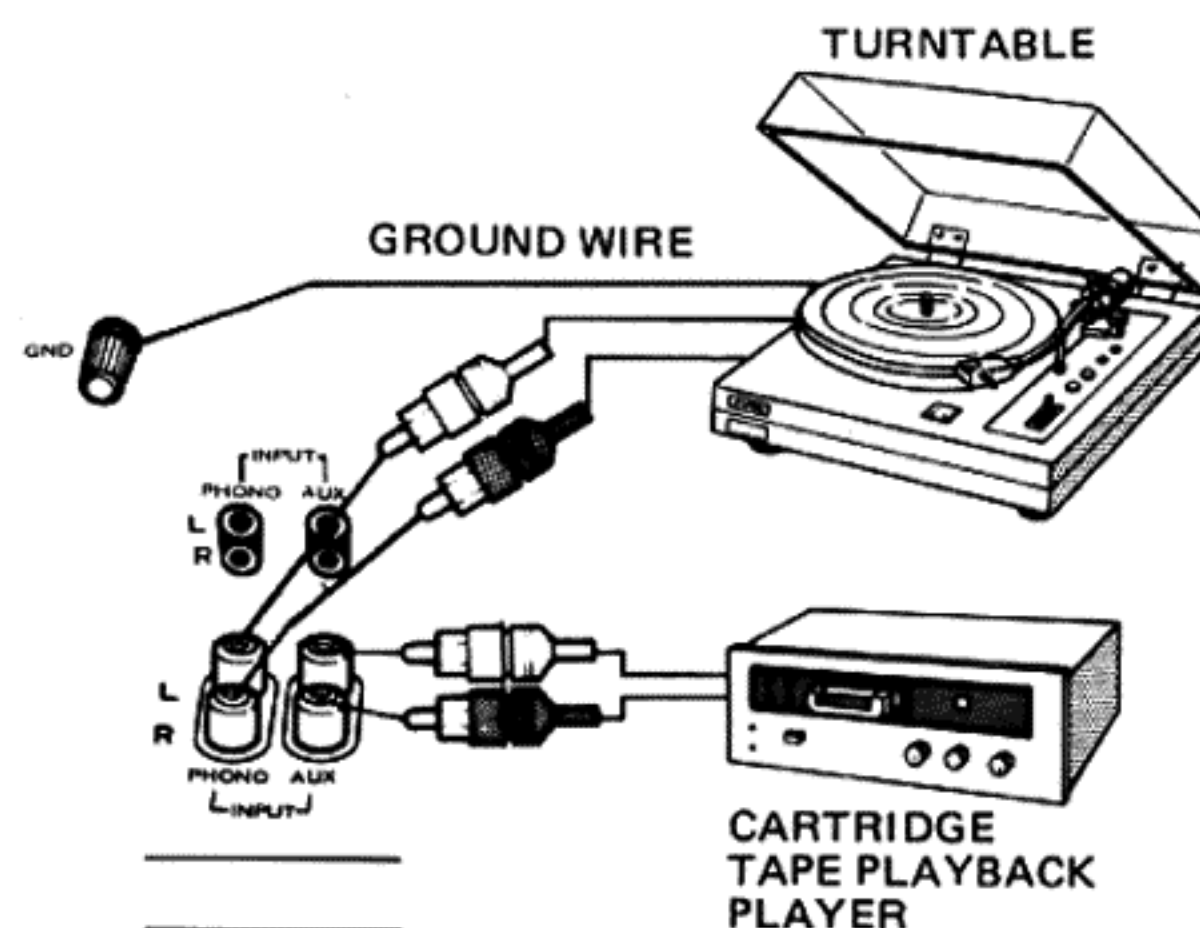

Fig. 3
Connect a turntable equipped with a moving magnet (MM) type cartridge to the PHONO jacks, taking care to observe L and R channels. The ground lead of the turntable should be connected to the GND terminal (Fig. 3).
USE OF THE AUX JACKS (Fig. 3)